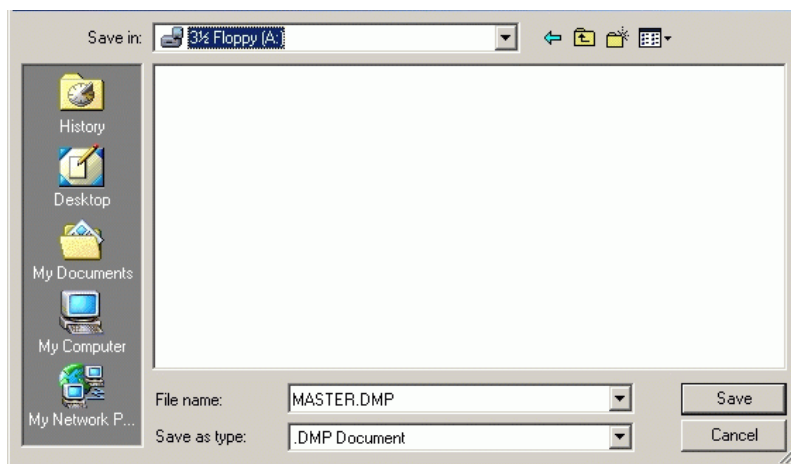

Figure 4-22 Save As Dialog Box
4. Select the *Save Target As...* menu option. The *Save As* dialog box displays (Figure 4-22).